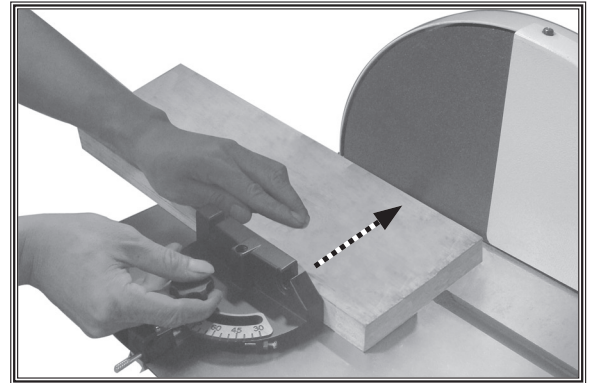

Figure 13. Example of Y-axis sanding.
5. With light, but firm pressure, push the workpiece into the down-spin side of the rotating disc. See Figures 13–16 for examples of disc sanding.